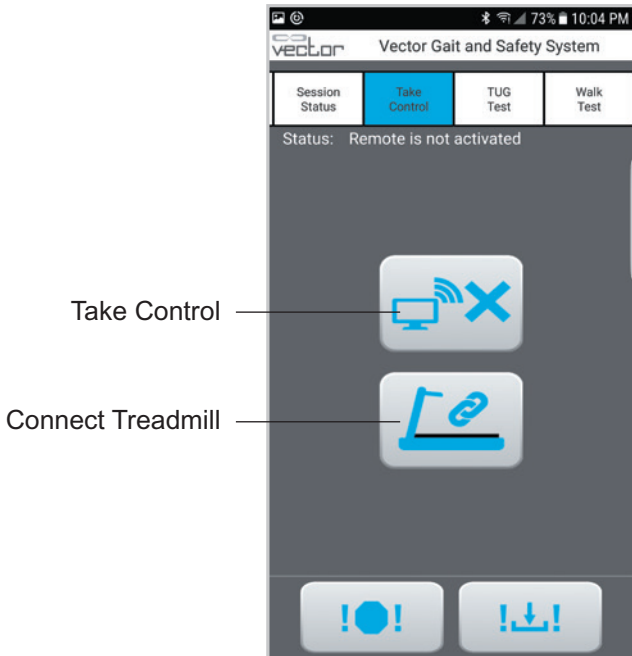

Figure 9-13: Take Control Screen
3. In the Vector Remote Control application, navigate to the Take Control screen and press the Connect Treadmill button. See Figure 9-13.